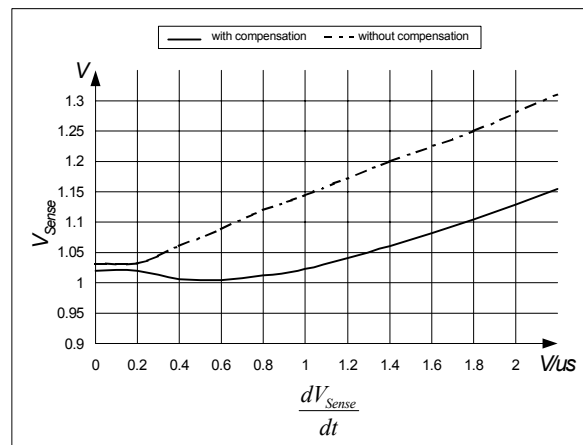

Figure 19 Overcurrent Shutdown
E.g.  $I_{peak} = 0.5A$  with  $R_{Sense} = 2$ . Without propagation delay compensation the current sense threshold is set to a static voltage level  $V_{csth} = 1V$ . A current ramp of  $dI/dt = 0.4A/\mu s$ , that means  $dV_{Sense}/dt = 0.8V/\mu s$ , and a propagation delay time of i.e.  $t_{Propagation Delay} = 180ns$  leads then to a  $I_{peak}$  overshoot of 14.4%. By means of propagation delay compensation the overshoot is only about 2% (see Figure 19).